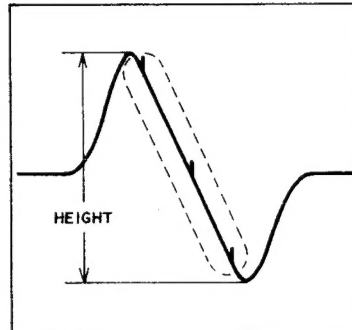

Fig. 4
- 3) Set Tuner Source Selector to FM-AUTO, and set the tuning indicator needle to extreme right end of dial. At this time confirm that noise does not enter the S Curve shown in Fig. 4.
- 5) Adjust the upper and lower core of Discriminator coil so that the wave height value of the S Curve shown in Fig. 4 is maximum and the linearity of the part indicated by the dotted line is optimum (refer to Chart 2).